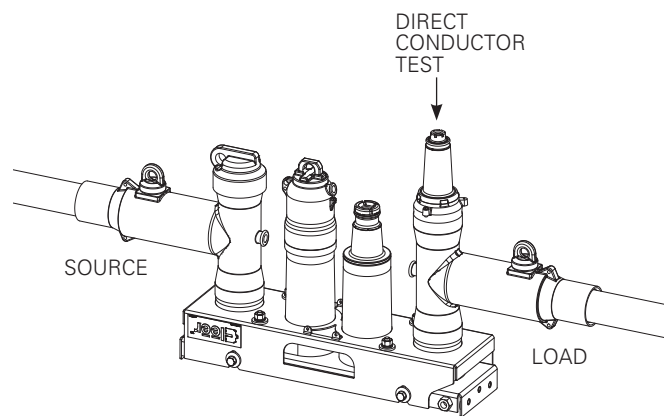

Figure 5. Verify circuit is de-energized
- Using appropriate voltage sensing meter, test through 200 A interface to verify circuit is de-energized. See **Figure 5**.